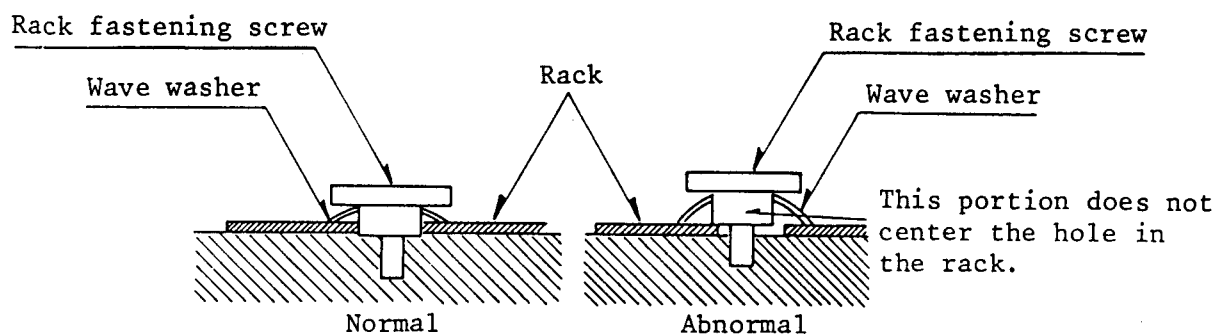

Fig. 3-8
- ③ Tighten the rack fastening screw with the rack in correct position as shown in Fig.3-8.